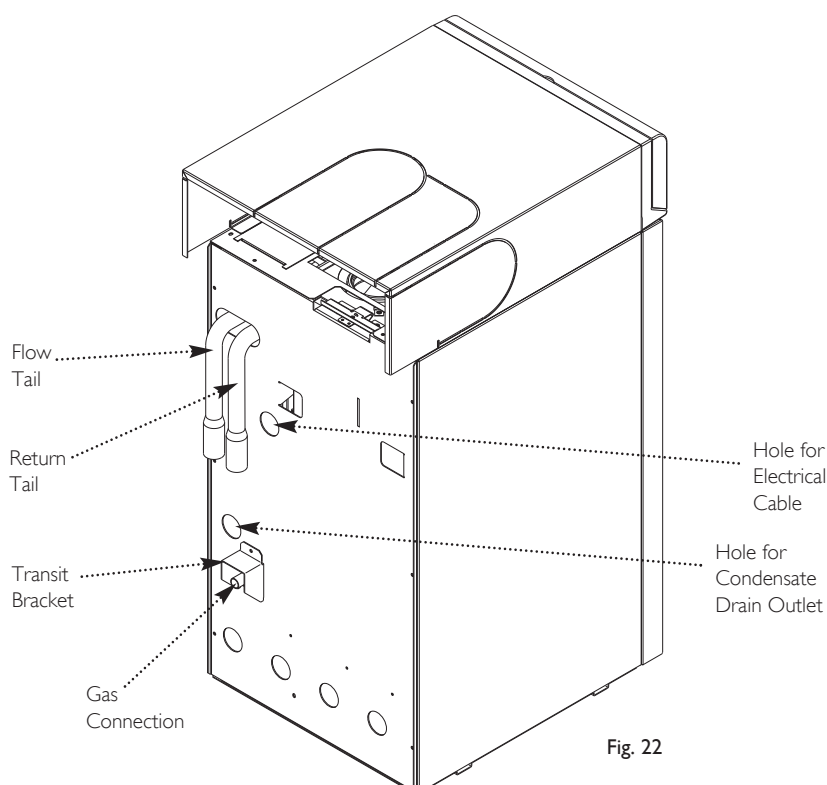

Fig. 22
1. The connection to the boiler is a 15mm tail on the gas service cock. The tail protrudes through the boiler rear panel and is protected by a transit bracket which may be removed to aid connection (see Fig. 22).